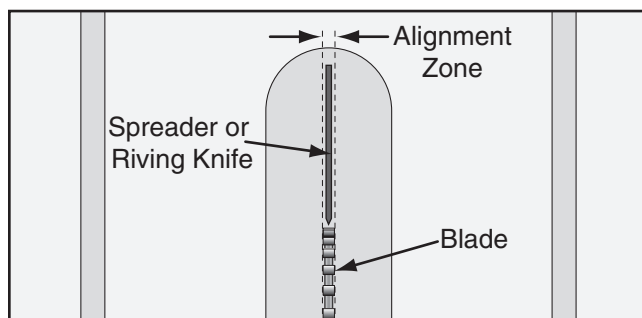

Figure 34. Spreader/riving knife alignment zone.
5. Place a straightedge against the blade and the spreader. When properly aligned, the spreader/riving knife will be in the "Alignment Zone," shown in **Figure 34**, and will be parallel with the blade.